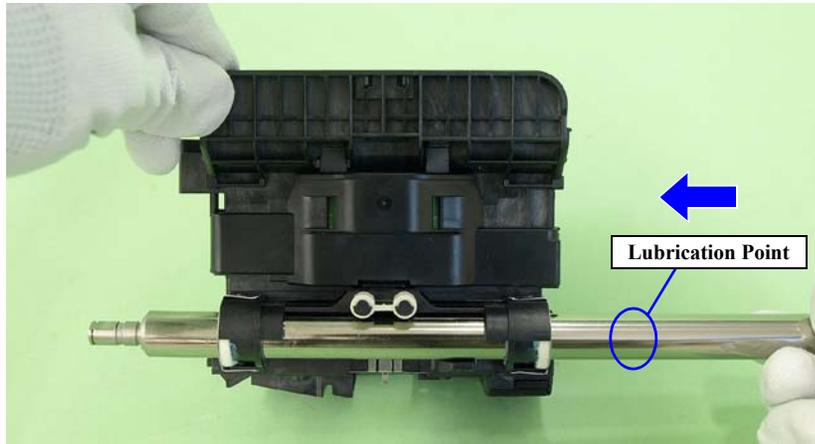

Figure 5-22. Lubricating the Carriage Shaft (4)
6. Lubricate grease with the syringe at the point shown in refer to Figure 5-22.